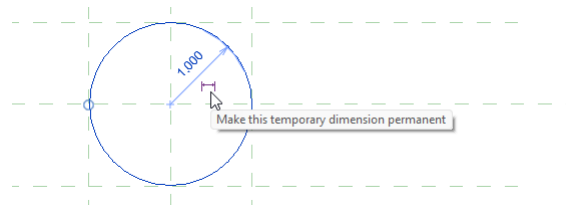

Figure 3—Make the temporary radius dimension permanent
6. Select the circle, and then click the icon beneath the dimension to make the temporary dimension permanent. Click the Modify tool to cancel (see Figure 3).